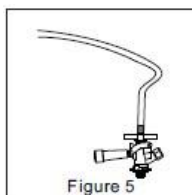

Figure 5
- b. Take out the accessories of the mixed ball valve. Attach the transparent hose to the beer outlet of the mixed ball valve. (See Figure 5).